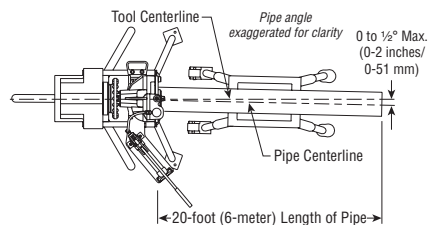

Figure 2 - Tracking Angle
6. Position the pipe stand approximately $1/2^\circ$ to the left for the tracking angle. Refer to Figure 2 below.